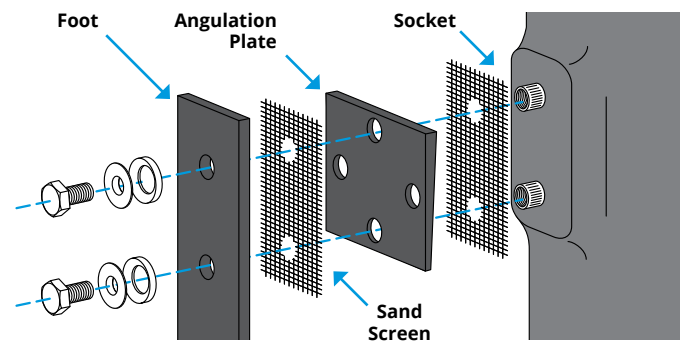

Figure 8
1. Use the provided bolts and spherical washer set to attach the foot to the plate. Tighten the bolts to 35 N·m. Threadlocker (one capsule provided) should be applied to both bolts connecting the foot to the plate (Figure 8). Be sure to check the torque of the bolts regularly throughout the life of the foot (a minimum of 3 – 6 months).